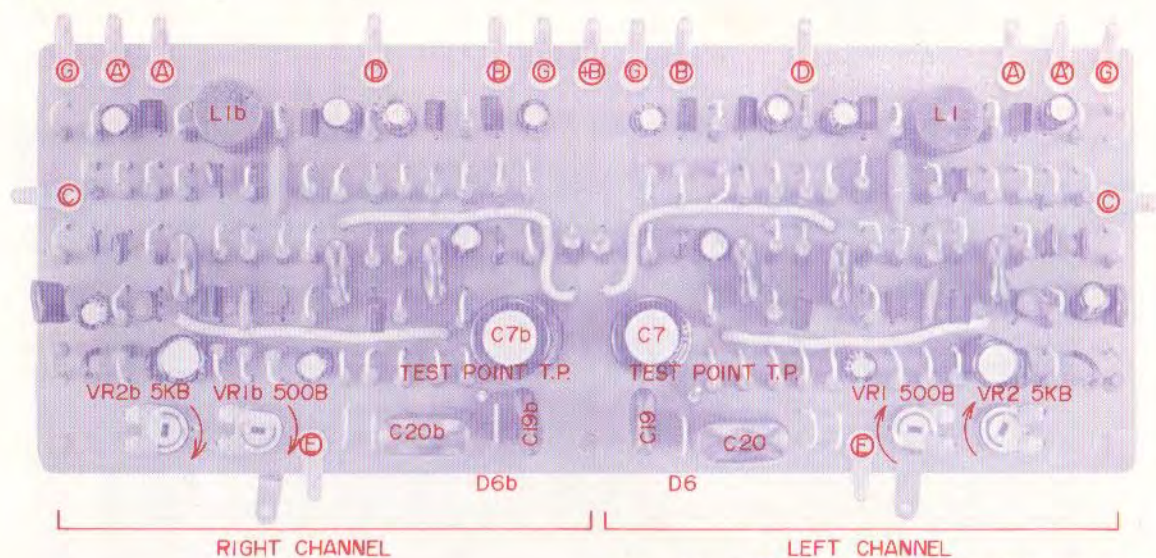

Fig. 11 DOLBY N.R. P.C. BOARD TD-5310 (Face)
1. RECORDING DOLBY N.R. CIRCUIT ADJUSTMENT (Refer to Fig. 11)
- 1) Turn semi-fixed resistors VR1 500B and VR2 5 kB fully clockwise (Fig. 11)
- 2) Ground test points T.P (Fig. 11)
- 4) Supply a 5 kHz, -10 dBm signal which has been verified with a frequency counter from the audio frequency oscillator and confirm that at this time the indication of the high-sensitivity V.T.V.M. connected to terminal (B) is 0 dBm.
- 5) Reduce the output of the audio frequency oscillator by -30.5 dB from the condition outlined in item 1-4) (5 kHz, -40.5 dB) and at this time confirm that the indication of the high-sensitivity V.T.V.M. connected to terminal (B) is -30.5 dB.
- 6) Set Dolby Switch to ON position and adjust semi-fixed resistor VR1 500B to obtain a -20.5 dBm indication on the high-sensitivity V.T.V.M. connected terminal (B).
- 7) Disconnect ground wire from test point T.P (grounded in item 1-2) and at this time adjust semi-fixed resistor VR2 5 kB to obtain a -22.5 dBm indication on the high-sensitivity V.T.V.M. connected to terminal (B).